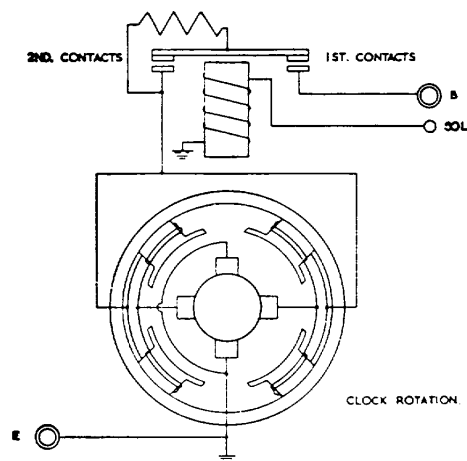

Fig. Q. 11.
The first pair of contacts having closed, battery current flows through the resistance (9) and armature field windings (24). Since the resistance allows a **limited** current only, to pass through the field windings. the armature rotates very slowly. The electrical circuit is shown schematically in Fig. Q.11. This completes the first stage of the operation.